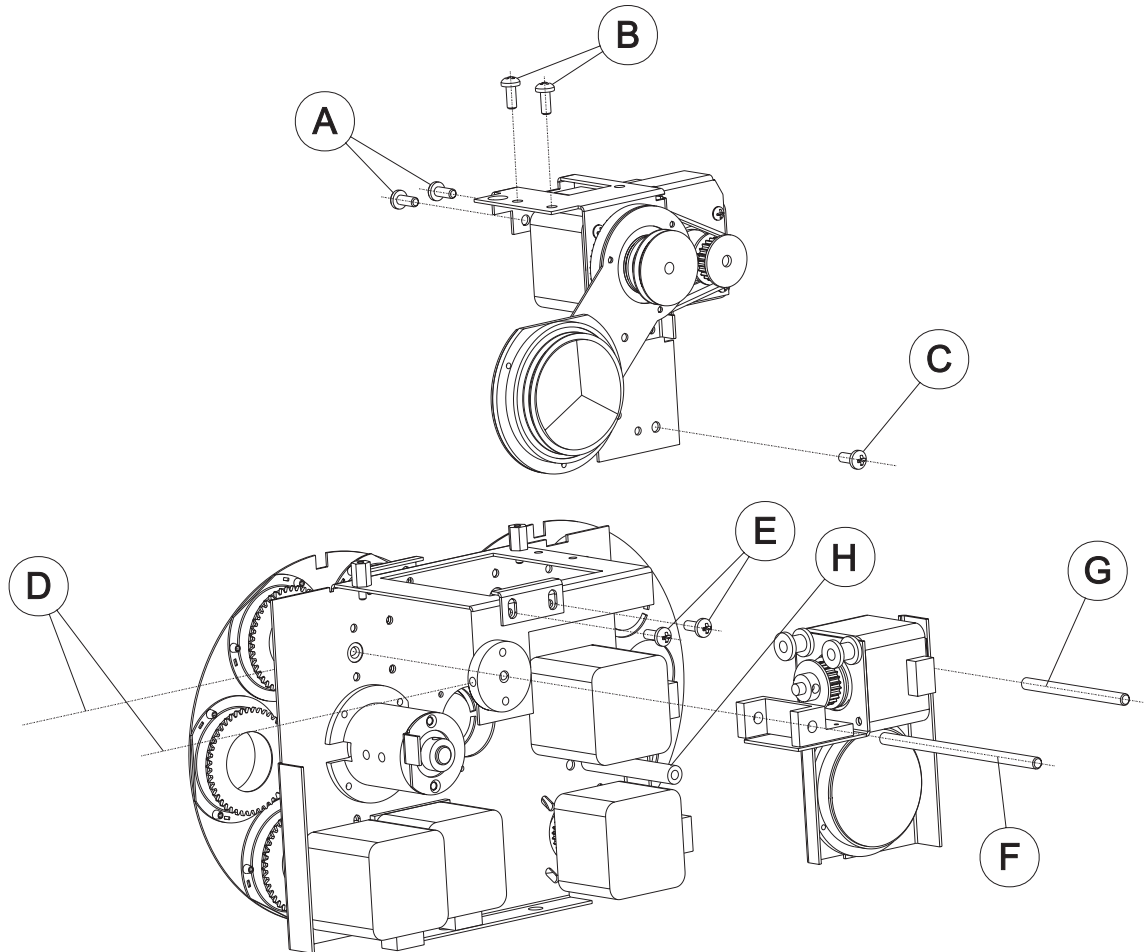

Figure 2-4
2. Refer to Figure 2-4. Through the open gobo in the fixed gobo wheel, remove the 2 screws (A) from the rear. Remove 2 screws (B) from the top.
3. Grip the brass coupling nut (H) with pliers and remove the screw (C) from the front.
2. Refer to Figure 2-4. With tape or a marker, mark the position of the drive belt (not shown) in relation to the front of the module. Loosen the screws (E) holding the angle bracket and release the belt.
3. Loosen the set screws (D) securing both focus slide pins (F and G). There is only 1 set screw, in the outside holes, in the rear adaptors. There are 2 set screws in the front adaptor for the long slide (F).